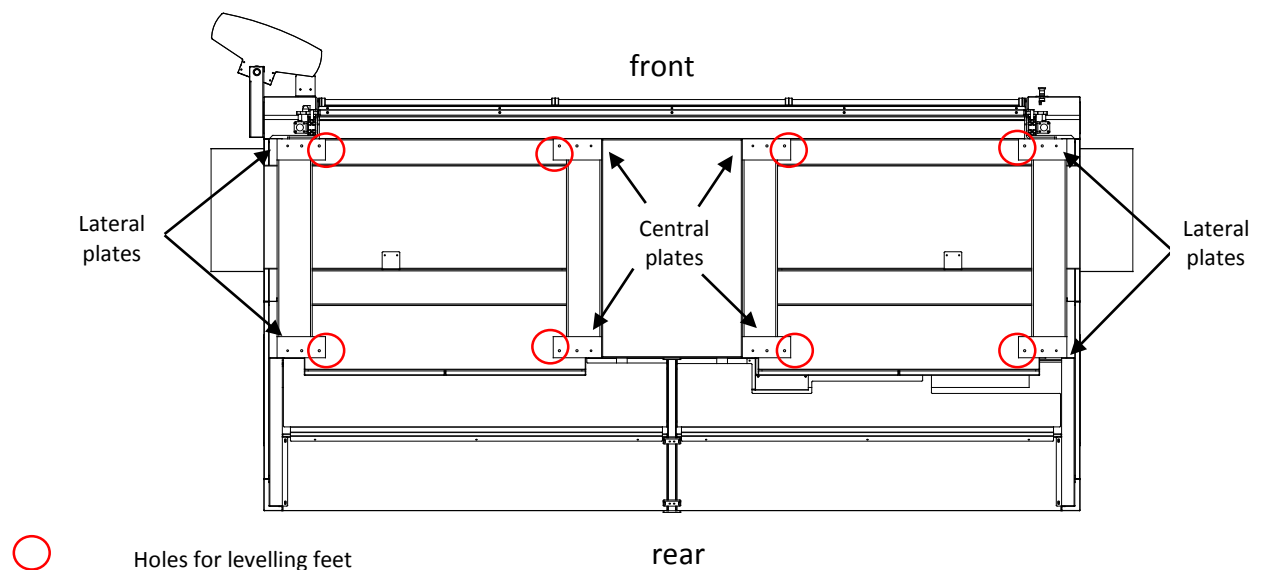

Fig. 44 – MC400 view from below
- With the machine slightly raised, insert the stem of the foot, previously equipped with nut M12 (adjusting nut), in the hole drilled in the plate indicated in Fig. 44.